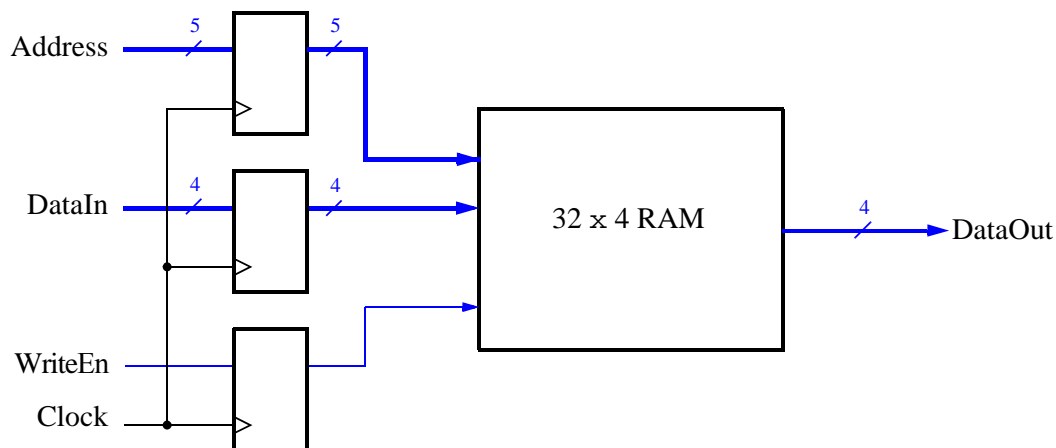

Figure 1: Schematic of the 32×4 embedded memory module.
The memory module we would like to create is shown in Figure 1. It consists of a memory block, address register, data register and a control register. You can see that the address and input data are stored in a register as well as the Write Enable control signal. Using
To generate the memory module for the small memory shown in Figure 1, perform the following steps.
8. Examine the newly created Verilog file. Observe that it declares a module with the required ports as shown in Figure 1. You can now instantiate the module into any design.